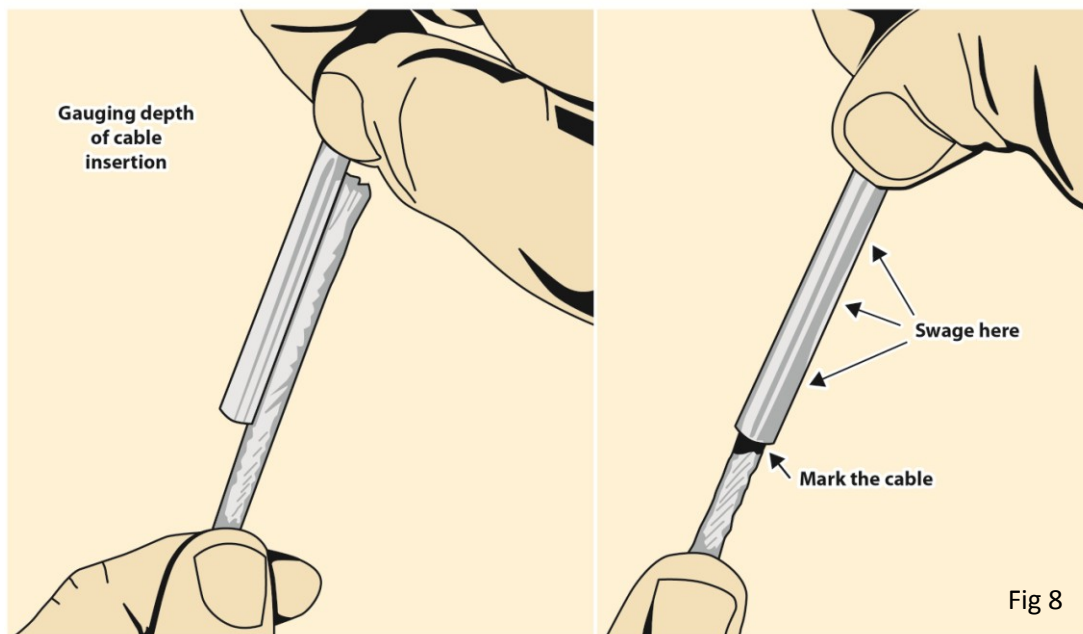

Fig 8
- Using a black marker, mark the cable to provide a visual reference that the cable remains fully seated down inside the fitting and does not slip out (Fig. 8).